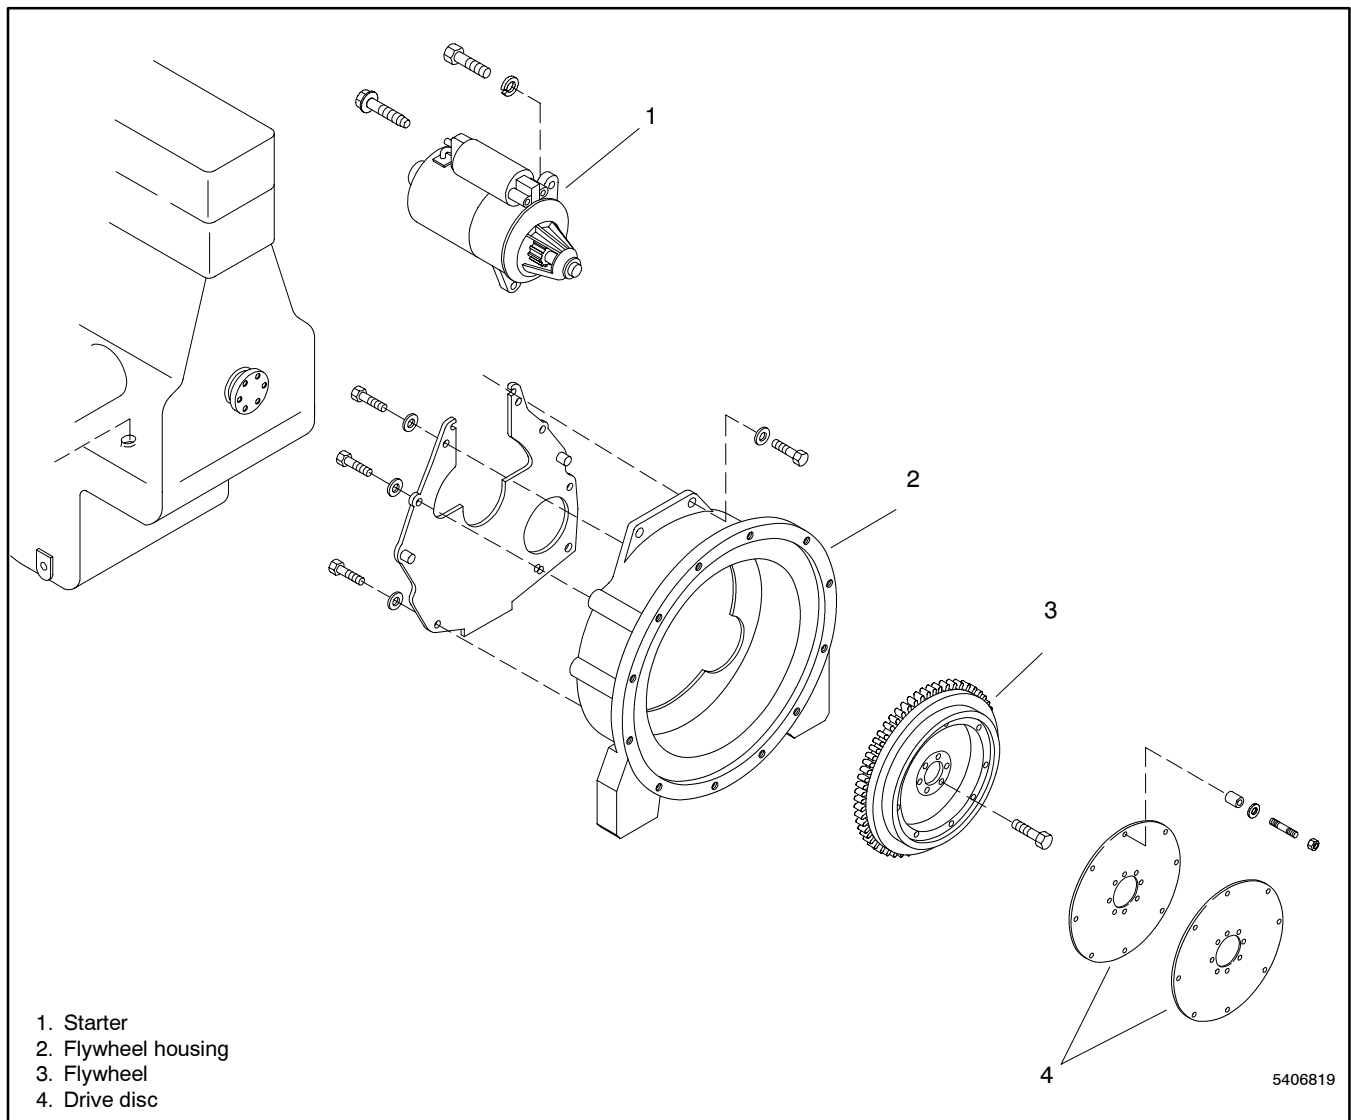

Figure 6-33 Flywheel Housing and Rotor Removal
16. Remove three bolts and lock washers securing starter to rear engine mounting plate. Remove starter. Remove remaining screws securing flywheel housing to rear engine mounting plate. Remove flywheel housing. See Figure 6-33.
1. Secure drive discs and rotor to studs on flywheel with six spacers, washers, and nuts. Tighten to 65 Nm (50 ft. lb.). See Figure 6-33.
4. Attach adapter to flywheel housing with twelve screws. See Figure 6-33.